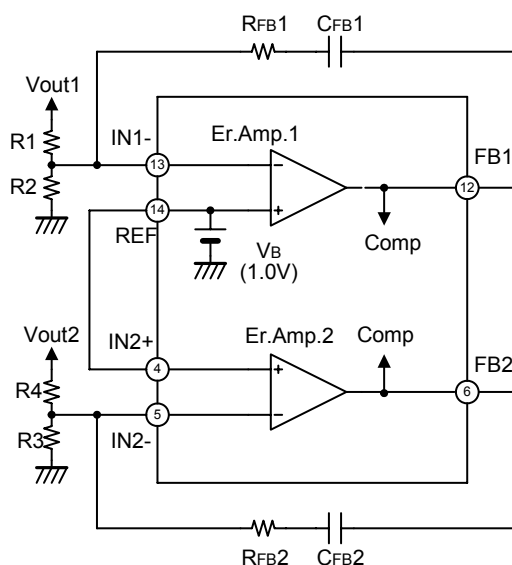

Fig.3
Error Amplifier 1 of FA7703/04 has the inverting input IN1(-) terminal (Pin13). The non-Inverting input is internally connected to the reference voltage (VB) of $1.00\text{V} \pm 2\%$ at 25°C . Because error Amplifier 2 of FA7703/04 has the inverting input IN2(-) terminal (Pin5) and non-inverted input IN2(+) terminal (Pin4) outputting externally, various circuit can be designed by kinds of external circuit structures. FB terminals (Pin6, Pin12) are the outputs of Error Amplifiers. Voltage Gain and phase compensation can be set by connecting a capacitor (C) and a resistor (R) between FB terminal and IN(-) terminal.(Fig. 3) For more information about the connection for each output voltage of power supply, refer to Design Advice.